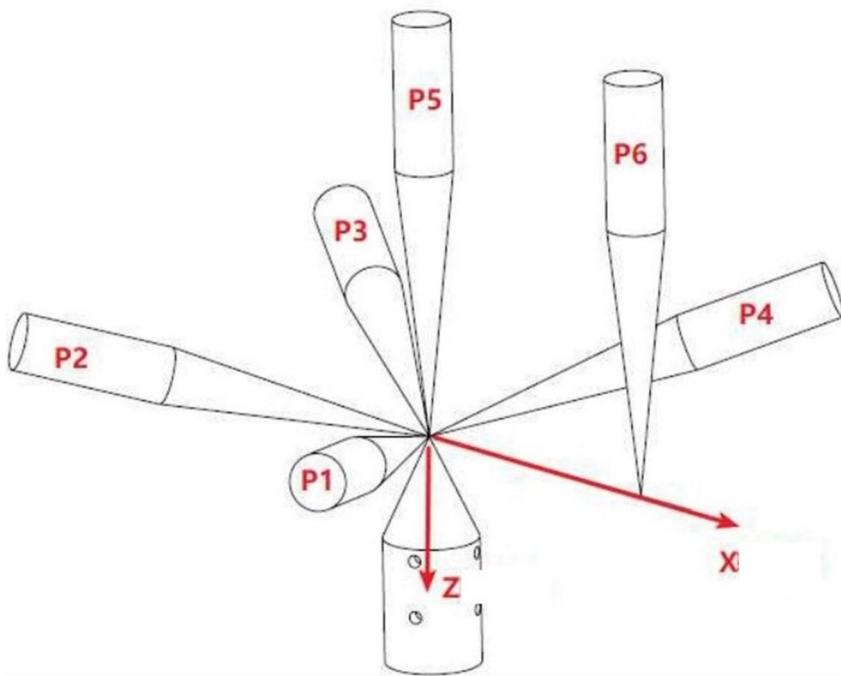

Figure 2-7 Six-point calibration of robot pose
Step 3: Manually teach the robot, align the two tips and take six postures (see Figure 2-7). After adjusting a position, highlight the corresponding line in 【Calculate Tool Coordinate Value】 , and then click 【Record】 . (Tips for picking points: when looking at the point, look at the front and side directions. When there is no deviation in both directions, the tip is only aligned.)